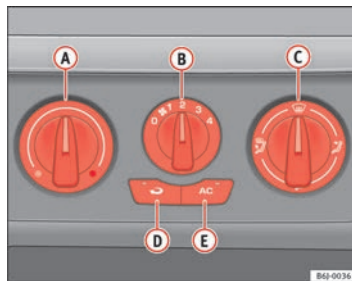

Fig. 91 Air conditioning controls on the dash panel
- Using the controls \Rightarrow fig. 91 **A** and **C** and with the switch **B** you can adjust the temperature, the air distribution and the blower speed.